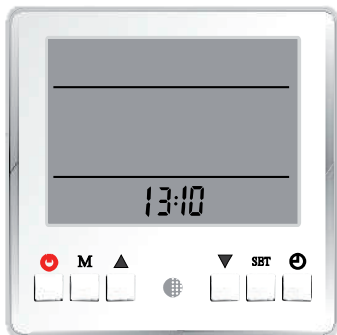

Figure 7-4 - During the time setting, the hours and minutes flashes
- 1.- When the appliance is off press the "SET" button for 5 seconds, the current time will start flashing (Figure 7-4);